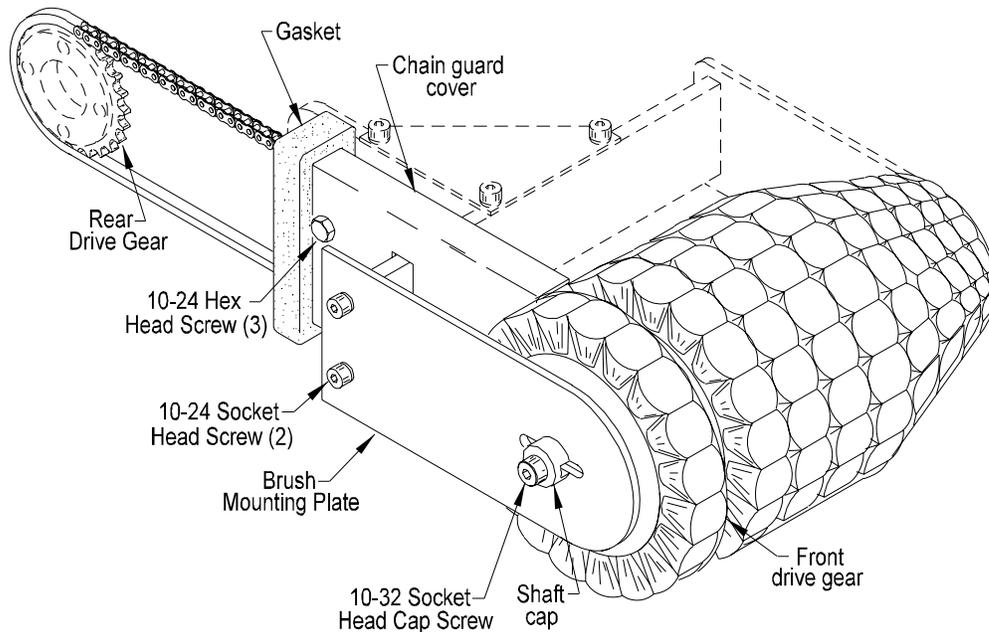

Figure 3.2
C. CHAIN REPLACEMENT PROCEDURE: Figure 3.2